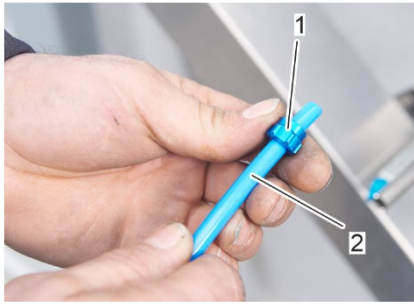

Fig. 60: Slide union nut on compressed air hose
3. Slide the union nut (Fig. 60/1) onto one end of the compressed air hose (Fig. 60/2).